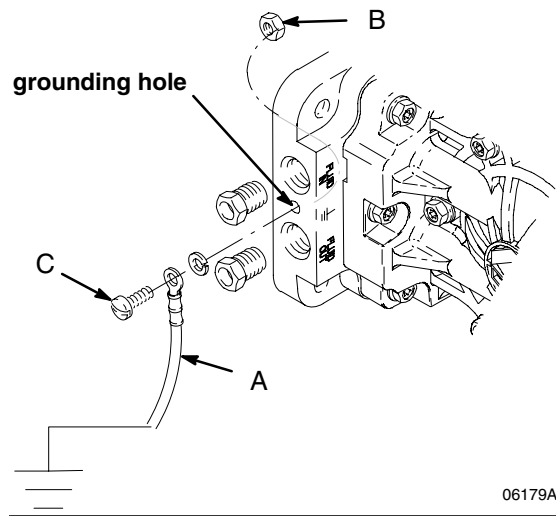

Fig. 1
The *polypropylene and PVDF pumps* are **not** conductive. When you pump conductive flammable fluids, **always** ground the entire fluid system by making sure the fluid has an electrical path to a true earth ground. See Fig. 1. **Never** use a polypropylene or PVDF pump with non-conductive flammable fluids as specified by your local fire protection code. Consult your fluid supplier to determine the conductivity or resistivity of your fluid.
**Pump:** Connect a ground wire (A) and clamp, Part No. 222011. See Fig. 1. The pump grounding locations are on the manifold between the inlet and outlet ports. Use the nut (B) and bolt (C) that are provided with the pump, and install as follows: